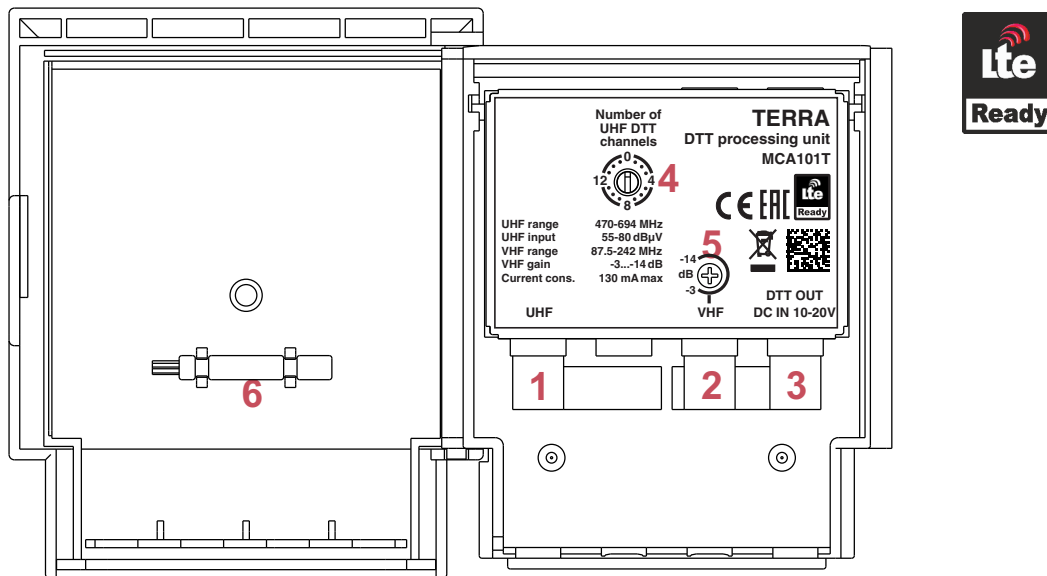

Figure 3. External view of the units
Set the number of DTT channels in UHF band with rotary switch (pos. 4, Figure 3) before fitting unit on mounting place. Good equalization of UHF DTT channels improve system performance. Set using regulator 5 (see Figure 3) DAB and FM signals level on OTF302 input precisely.